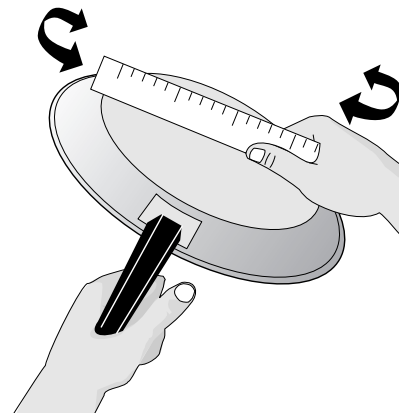

Fig. 2
- Check that cookware bottom rests completely and level on cooktop surface. Cookware should have flat bottoms that make good contact with the entire induction cooking zone area. Check for flatness by rotating a ruler across the bottom of the cookware (See Fig. 2).
Be sure to check that the cookware has met all the correct conditions listed in Fig. 2. Use this checklist as a guide to help to correct the problem or problems before attempting to reactivate any of the cooking zones.